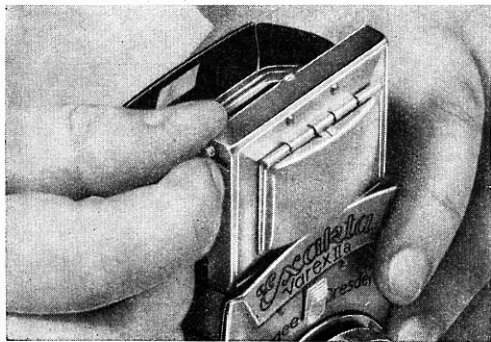

Fig. 17
A bright ground glass image is visible in the Finder Hood (11) of the EXAKTA Varex. It is magnified on the ground glass magnifier to such a degree that focussing is possible. For critical focussing, wherever required, the built-in additional magnifier (13) is employed: Move the release button (14) upwards along the guide in the Finder Hood frame (Fig. 17), while exercising slight counter pressure with your thumb. To bring the built-in magnifier back to its original position, proceed conversely: Move button (14) downwards again, gently resisting with your index finger.